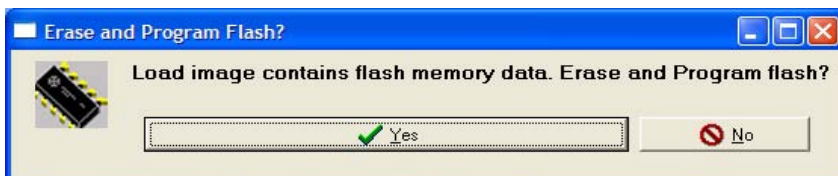

Figure 8. Erase and Program Flash memory
8. As shown in Figure 8, click on the Yes button to erase and program the flash memory on the board.